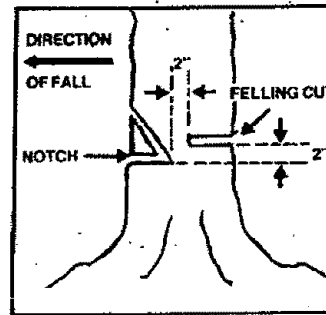

Figure 20
- a. Make the notch cut. Figure 20.